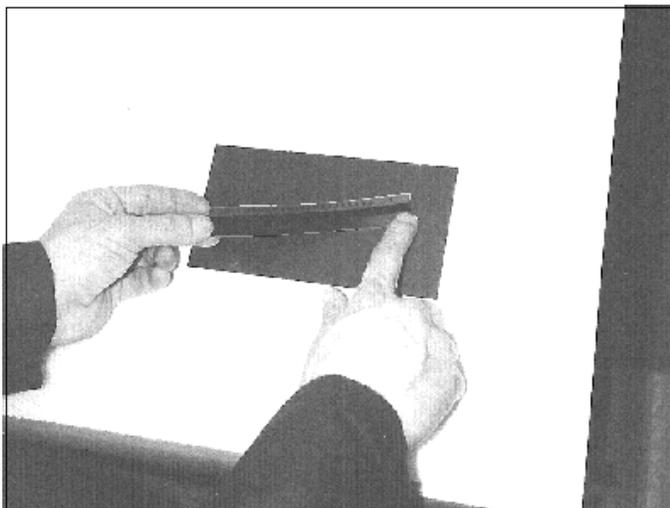

Figure 2. Positioning Grey Scale on Cliché
6. Carefully close the exposure frame over film positive and cliché (see figure 2).